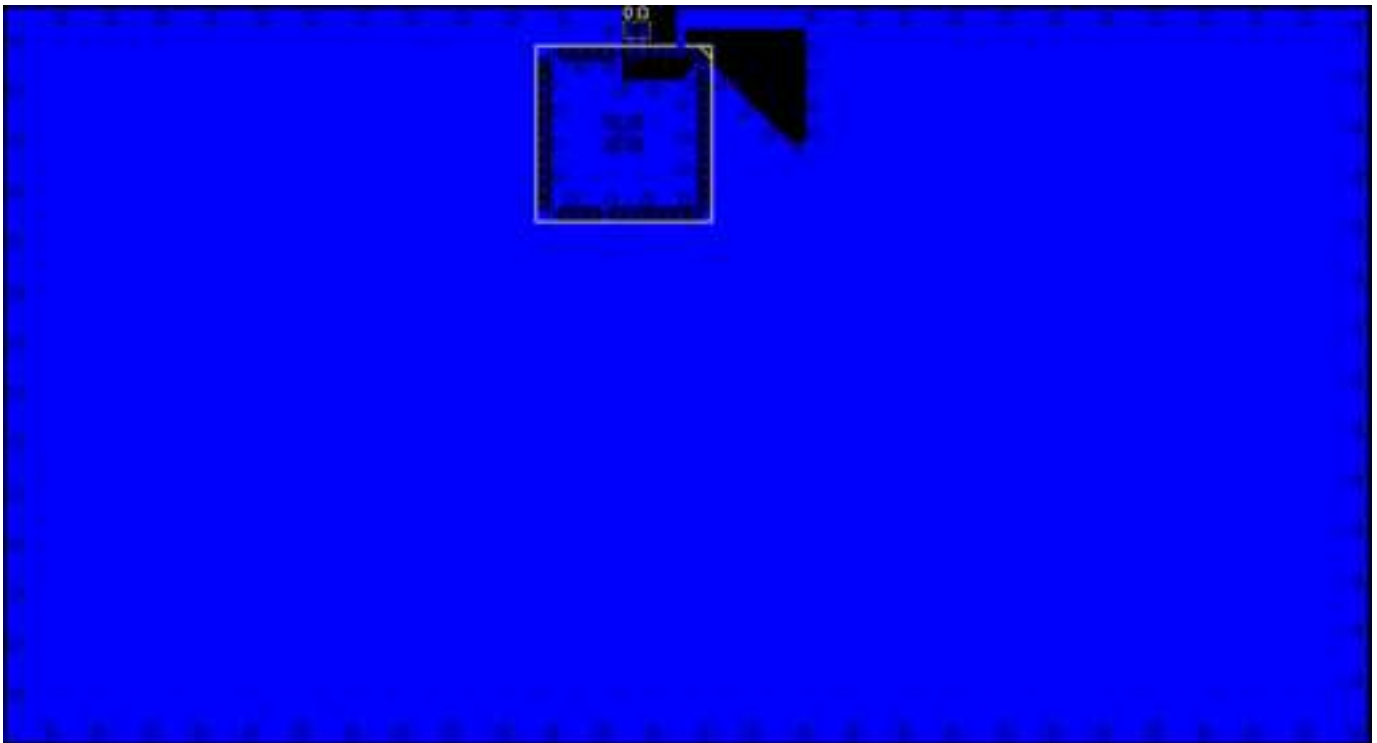

Figure 11: Recommended Layout for Lyra 24S (Integrated Antenna)
- Place the module 1.50 mm from the edge of the copper “keep-in” area at the middle of the long edge of the application PCB, as illustrated in Figure 11: Recommended Layout for Lyra 24S \(Integrated Antenna\).